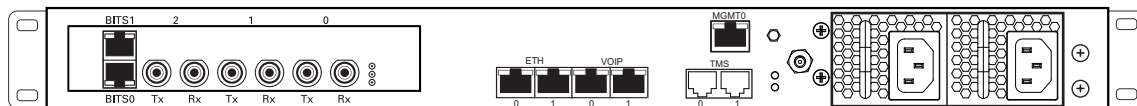

Figure 4.5 DS3 Interface to the PSTN
A TMG7800-DS3 with 3 sets of BNC connectors enables the connection to DS3 lines. See figure 4.5 on page 31.
1. Start with the Dual BNC port pair #0 (right-most) as shown in figure 4.5 on page 31. Connect one pair of BNC cables between this port and the DS3 line.